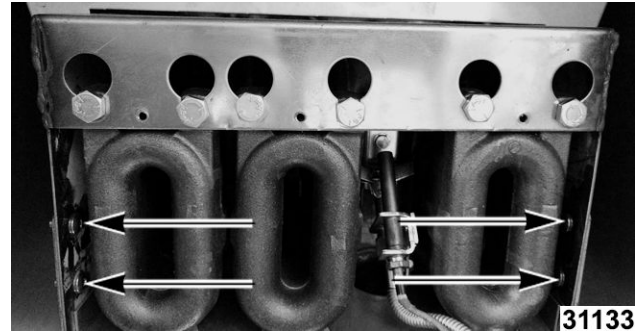

Fig. 26
8. Remove BURNERS and manifold bracket (Fig. 26).